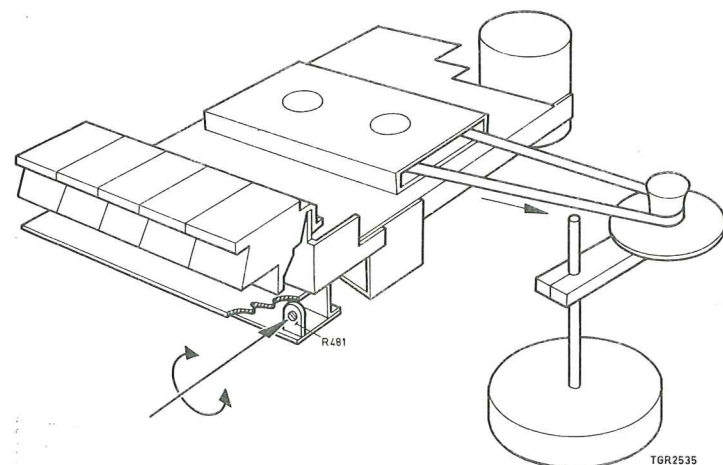

Fig. 15
- Place a stroboscope next to the recorder, and adjust the stroboscope to the required height. Pass the tape along the stroboscope (see Fig. 15). The tape speed should be 4.75 cm/s  $\pm$  2%.